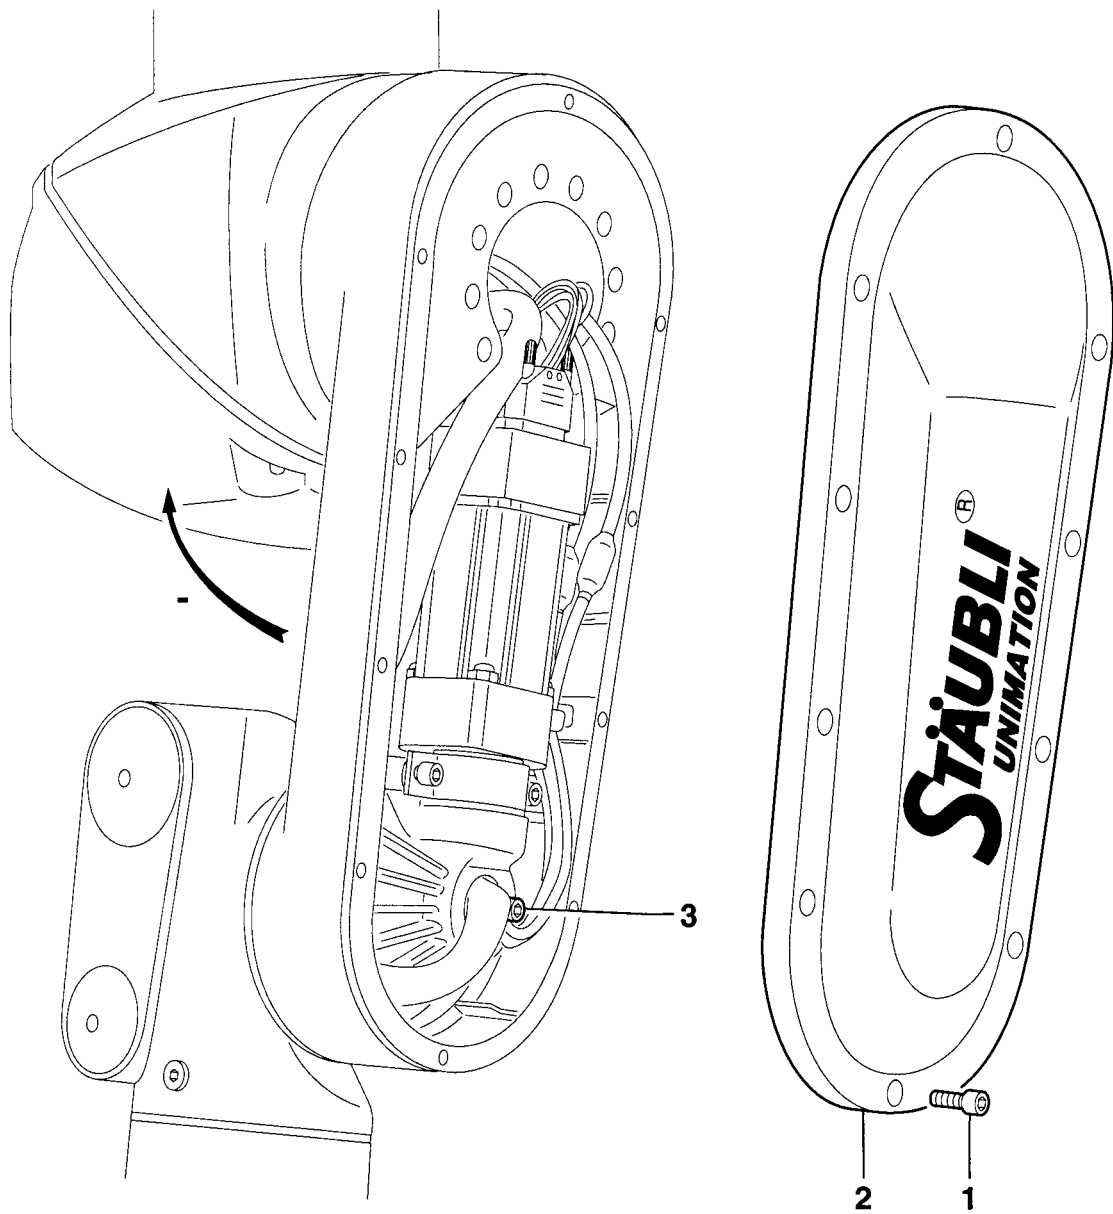

Figure 5.5
5.2.3. JOINT 3 TRANSMISSION CASING (figure 5.5)